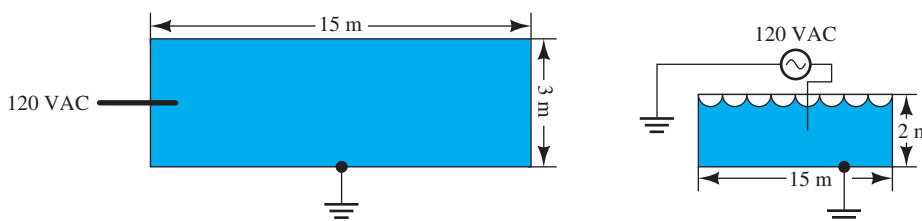

FIGURE P15.2 Swimming pool diagram for Problem 15.2.
- 15.2 (A) An electrical power cord falls into a swimming pool, as shown in Figure P15.2. If the pool water has a resistivity of $175 \text{ k}\Omega \cdot \text{m}$, find the current, I , that flows through the water. Assume that the pool bottom acts as a ground (return conductor), and the pool walls act as insulators.